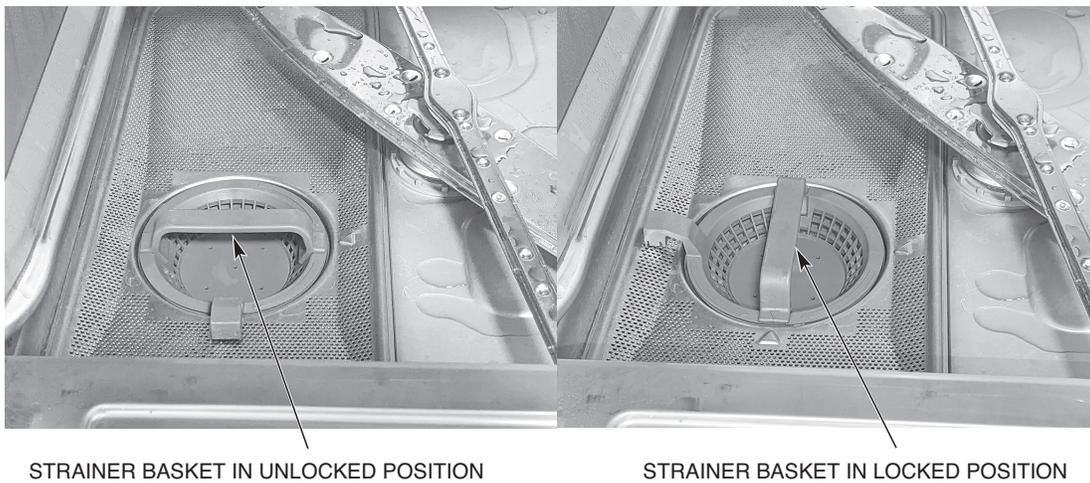

Fig. 5
**NOTE:** When installing the strainer basket, ensure the basket is in the 'locked' position (Fig. 5).
4. Replace strainer pan and strainer basket in machine and ensure basket is in the locked position (page 17, Fig. 5).